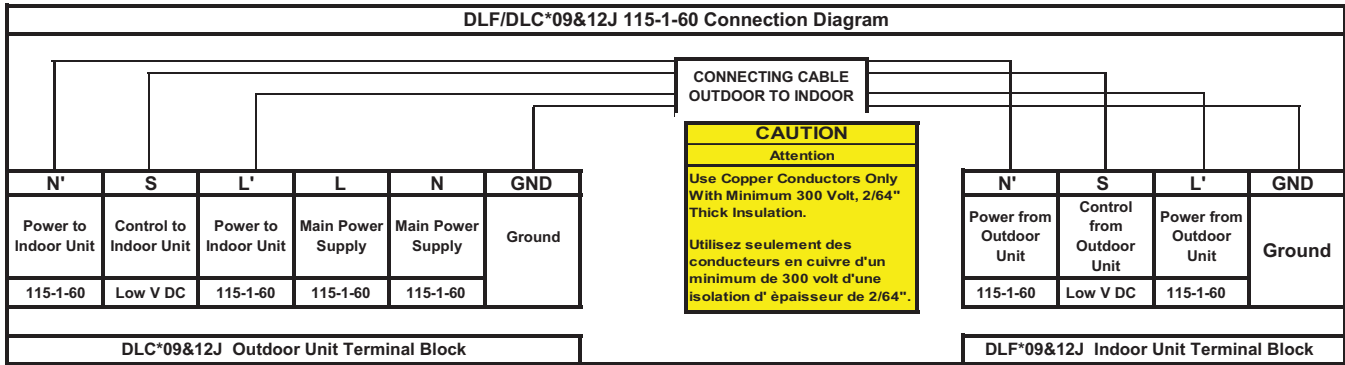

Fig. 21 – 09K & 12K 115V Unit Wiring Diagrams
8. Connect wiring from outdoor unit per connection diagram (see Fig. 21).